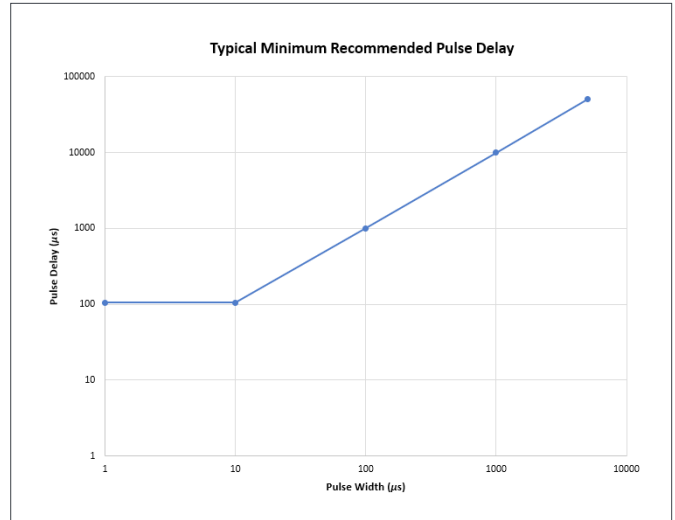

FIGURE 4
- Valid for continuous pulse mode only. For all other modes, as the pulse width becomes large relative to the pulse delay, the actual pulse delay may be longer than the programmed pulse delay due to time required for measurement processing. Typical minimum pulse delay settings for a given pulse width can be seen in the graph in **Figure 4**.